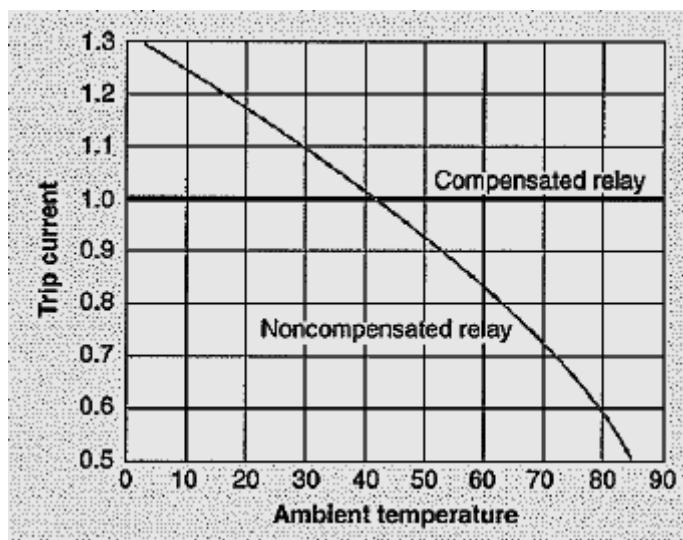

Figure 6.13: Temperatures from Intermittent Load
- 6-77 Melting-alloy and bimetallic thermal overload relays are not completely reliable when the motor is operating in a constant temperature and the relay is operating in varying temperatures. Ambient temperature affects both kinds of relays, but not the motor. Therefore, it is best to use an overload relay that reacts only to the motor current and not to changes in ambient temperature. Figure 6.13, on the following page, shows the effect of ambient temperature on the ultimate trip current of both compensated and non-compensated relays.